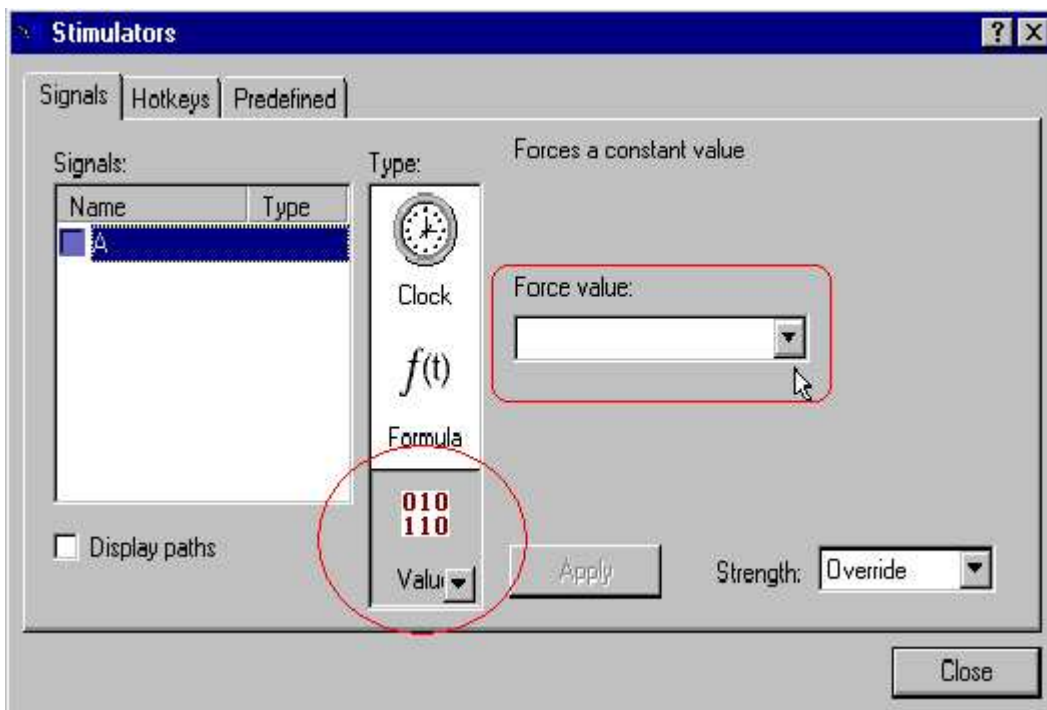

Figure 49
1. With the Stimulators window open and a signal selected, click the “Value” option in the list (see Figure 49).
2. Select the desired value from the “Force value” field (Figure 49).